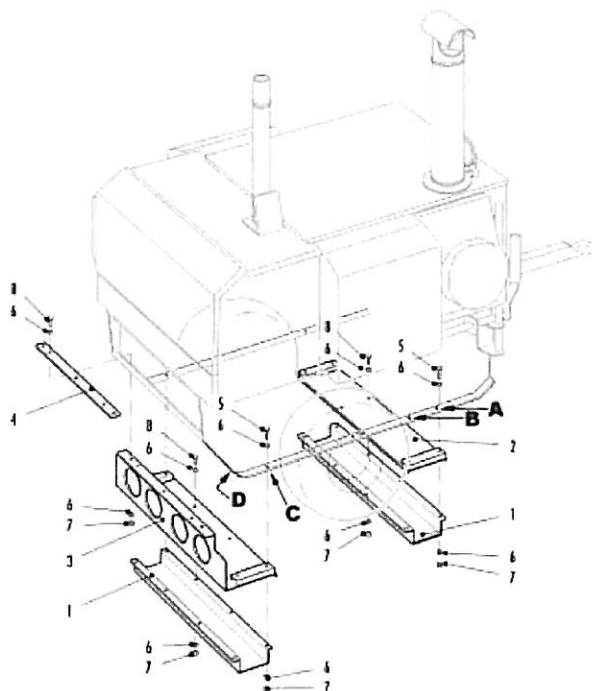

Figure 1-3. Forklift Channel Kit (Option) Installation
1.7.2.1 Serial numbers 2112-04-2356 and higher have factory drilled holes to accommodate forklift channel installation (A, B, C and D, Figure 1-3). Note the following: